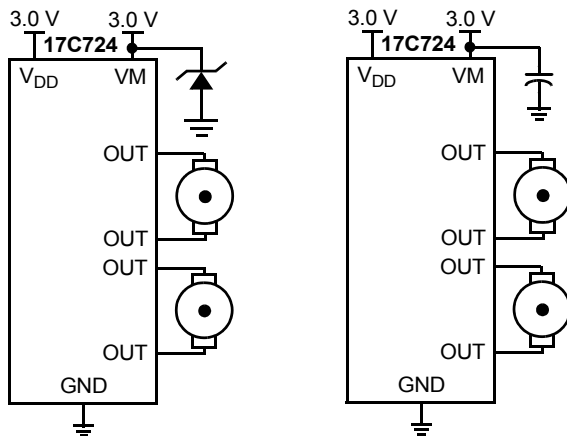

Figure 5. CEMF Snubbing Techniques
Care must be taken to protect the IC from potentially damaging CEMF spikes induced when commutating currents in inductive loads. Typical practice is to provide snubbing of voltage transients by placing a zener or capacitor at the supply terminal (VM) (see Figure 5).